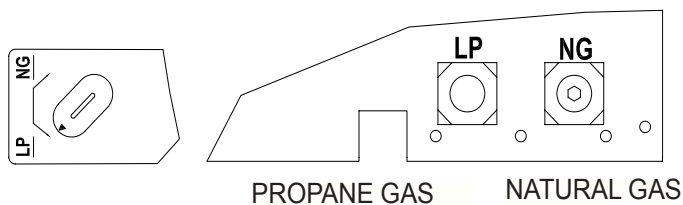

Fig. 14
1. Overturn chassis (see Fig. 14).